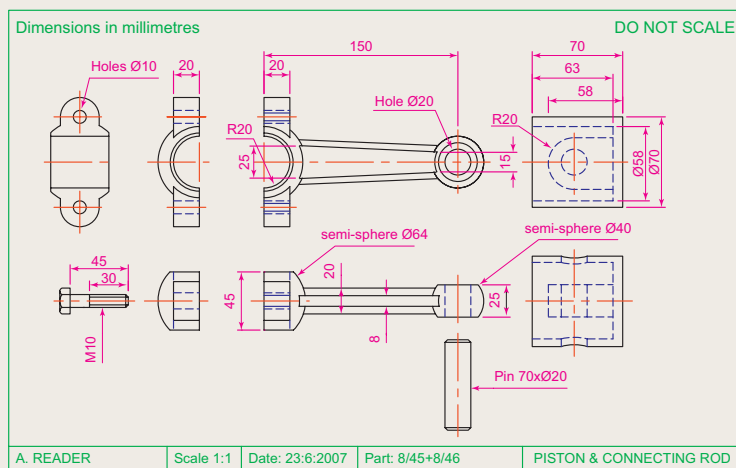
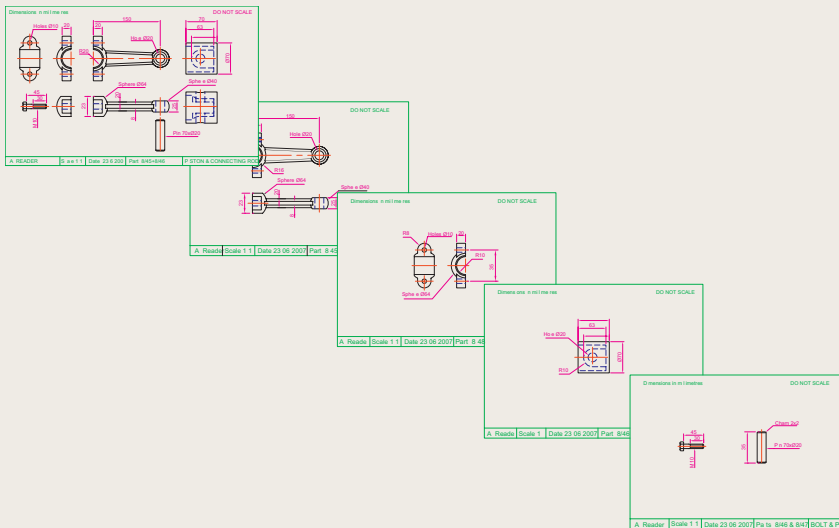

Fig. 11.15 Exercise 1 – exploded orthographic projection
Fig. 11.17 Exercise 1 – the five drawings in the sheet set
1. Fig. 11.15 is an exploded orthographic projection of the parts of a piston and its connecting rod. There are four parts in the assembly. Small drawings of the required sheet set are shown in Fig. 11.17. Construct the drawing in Fig. 11.15 and also the four drawings of its parts. Save each of the drawings in a **Layout1** format and construct the sheet set which contains the five drawings.